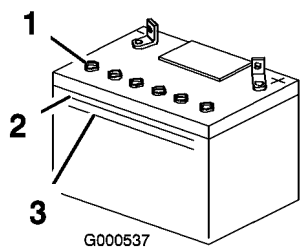

Figure 35
2. Look at the side of the battery. The electrolyte must be up to the Upper line (Figure 35). Do not allow the electrolyte to fall below the Lower line (Figure 35).
3. Remove the vent caps from the battery (Figure 35).
4. Slowly pour distilled water into each battery cell until the electrolyte level is up to the Upper line (Figure 35) on the battery case.
5. Wait five to ten minutes after filling the battery cells. Add distilled water, if necessary, until the electrolyte level is up to the Upper line (Figure 35) on the battery case.